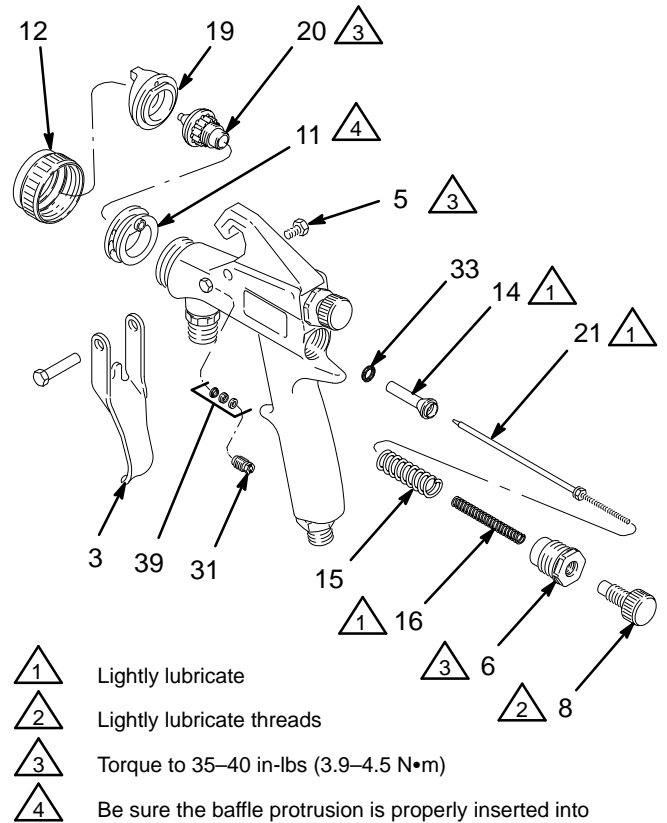

Fig. 5
11. Clean the parts. Check the fluid needle (21) for damage or excessive wear. Replace if necessary.
12. Check the baffle (11) for damage. If it is damaged, carefully pry it off with a screwdriver and replace it.
13. Lightly lubricate the parts indicated in Fig. 5 with lubricant 111-265.